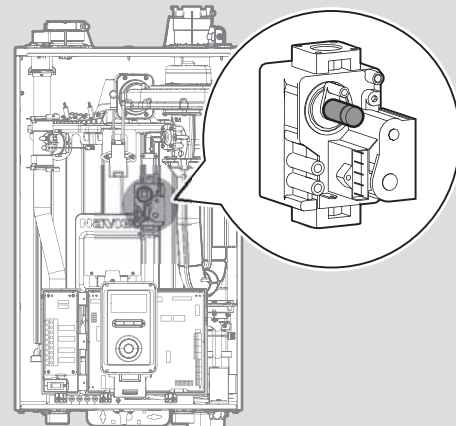

Figure 7. Set Screw Location
- Activate multiple zones and set the boiler to operate at 1-stage MIN mode. Measure the CO₂ value at low fire. If the CO₂ value is not within 0.5% of the value listed in Table 2, the gas valve set screw will need to be adjusted. If adjustment is necessary, locate the set screw as shown in Figure 7. Using a ⁵/₃₂ in or 4 mm Allen wrench, turn the set screw no more than 1/4 turn clockwise to raise or counterclockwise to lower the CO₂ value.